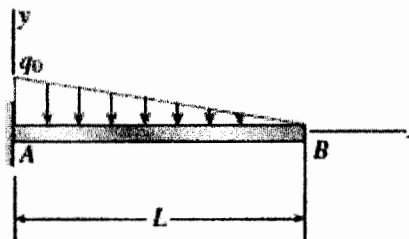

Fig. 5 A cantilever beam AB supporting a triangularly distributed load of maximum intensity q_0
6. A cantilever beam AB supporting a triangularly distributed load of maximum intensity q_0 is shown in the figure. (Fig.5) Derive the equation of the deflection curve and then obtain formulas for the deflection δ_B and angle of rotation θ_B at the free end. (Note: Use the second-order differential equation of the deflection curve.) (20%)